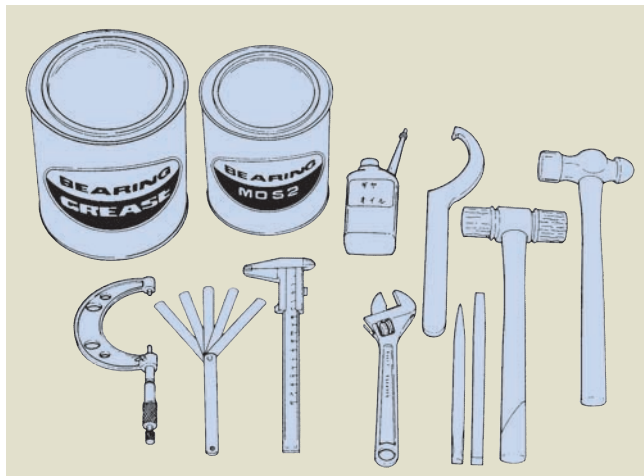
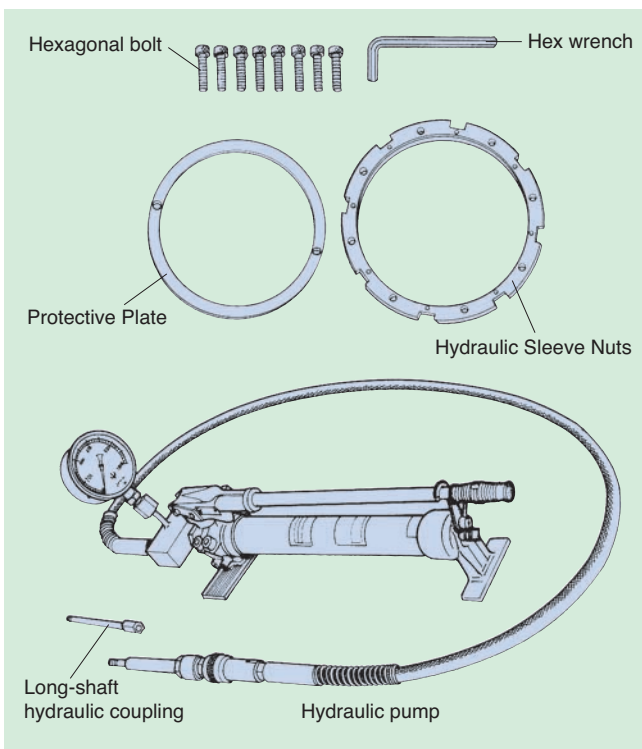

Fig. 2
Fig. 12
- (1) Prepare the relevant tools and lubricants required for assembly work (see Fig. 2).
In addition to the items shown in **Fig. 2** on P. 55, prepare a hydraulic pump, hydraulic sleeve nut, protective plate and hexagonal bolts (see **Fig. 12** and **13**).
Prepare the relevant tools and hydraulic pumps required for assembly and removal work (see Fig. 2 on P55). Other precautions are the same as those listed under 1. Preparation on P. 55.